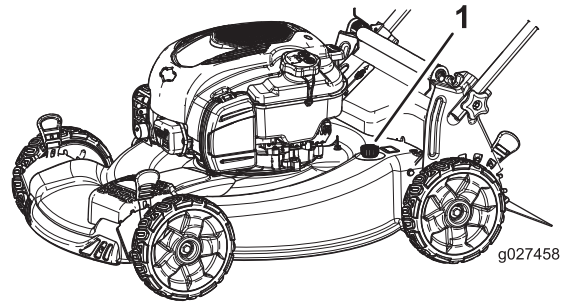

Figure 25
5. Attach a garden hose that is connected to a water supply to the washout port on the machine (Figure 25).